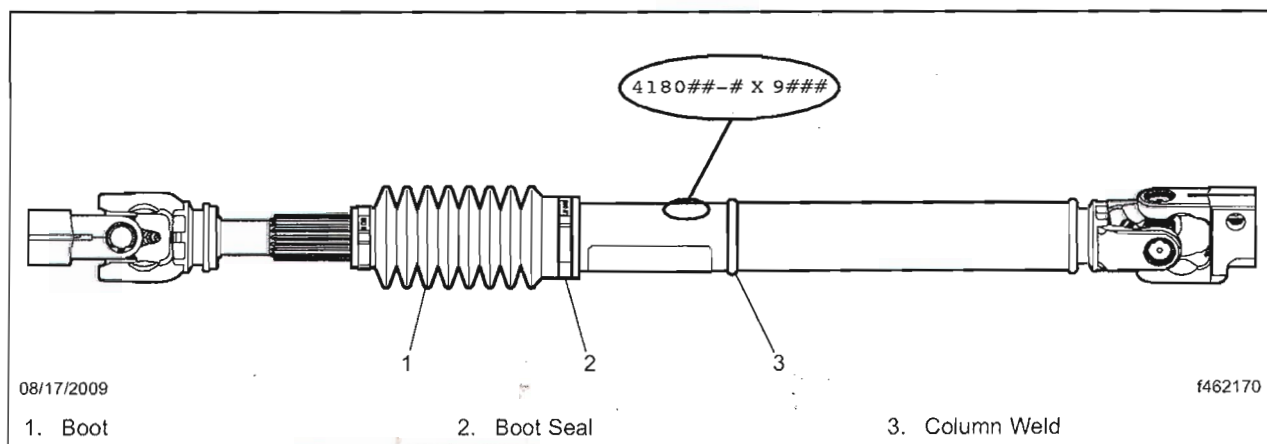

Fig. 1, TRW IGEN 3 Intermediate Shaft Part Number Location
3. Identify the intermediate steering shaft part number and date code, which are located on the intermediate shaft. See **Fig. 1**. An example of an intermediate shaft part number and date code is 418023-1 7130.
4. If the intermediate shaft is not an IGEN 3 model (as shown in **Fig. 1**), no further action is necessary.